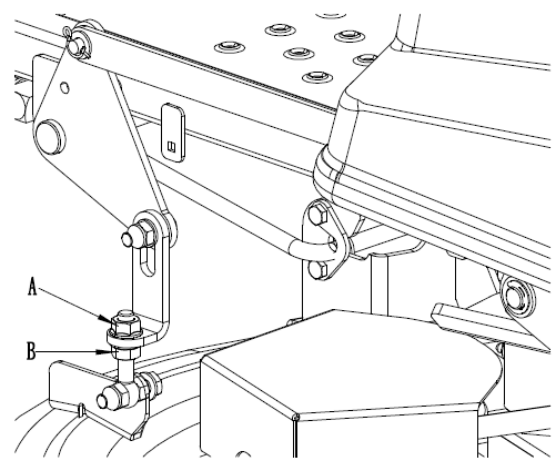

Fig. 17
- Locate the level adjust screw (A) and (B) on the front left mower deck hanger (refer to Fig.17).
- Adjust the level adjust screw(A) and (B) until blades on both sides are the same height above the level surface. Tighten
- If the blade is straight and adjustment is necessary, simultaneously adjust nuts A and B on both sides of DECK. (Refer to Fig. 17)
- When the front to rear adjustment is within the given tolerance, simultaneously securely tighten the jam nut (B) on the deck lift rod assembly.